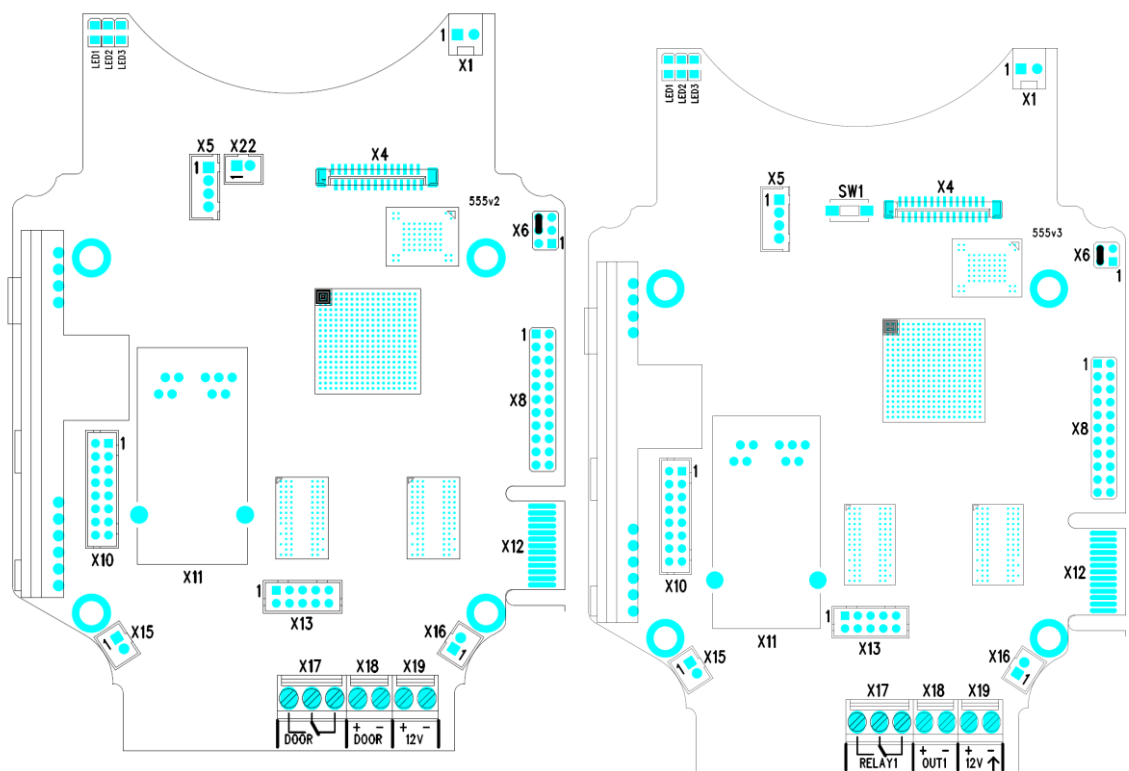

Figure 2.11 2N® Helios IP Force Connectors, PCB Version 555v2 and 555v3
**Fig. 2.11** shows the lay-out of connectors on the 2N® Helios IP Force printed circuit board (PCB). Cables, accessories and other system components are connected to connectors X1 through X22.